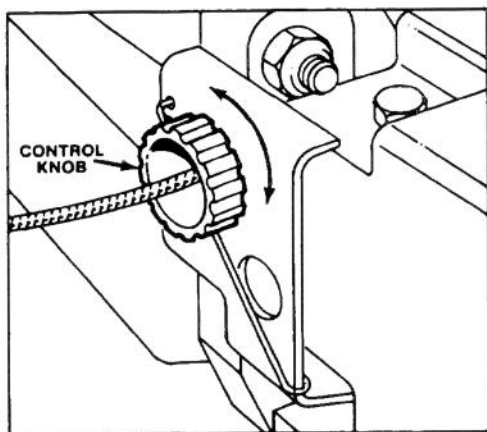

Figure 16
2. ADJUSTMENT (Fig. 16) — Rotate control knob clockwise 1/2 turn if mower does not self-propel. If mower creeps forward, rotate knob 1/2 turn counterclockwise to loosen belt.